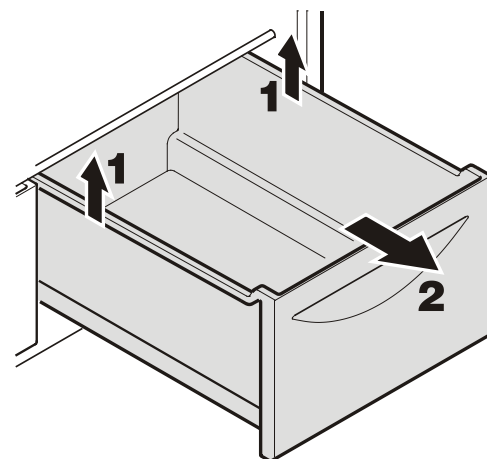

Figure 15
Pull the drawer straight out, grip at the back and lift out - **Figure 15**.
- Remove the vegetable drawers as shown in **Figure 15**.